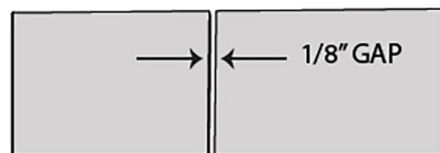

FIGURE 22
Double-check that the height of the Glass Panel (P) is even with the Glass Door (O) and 1/8" gap between pieces of glass is uniform. (See Figure 22)